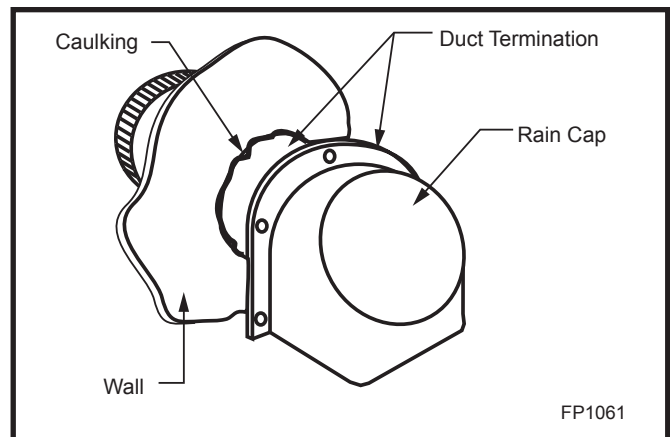

Fig. 17 Caulk and secure the duct termination/rain cap in place.
3. At the termination end, install the duct termination. This should be installed from the outside of the home. Cut a hole in the desired location approximately 4½" in diameter, caulk around the hole, and slide the termination through the opening from outside the home. The termination/rain cap should be caulked around its perimeter to assure a tight seal. The rain cap opening should be positioned downward. (Fig. 17)